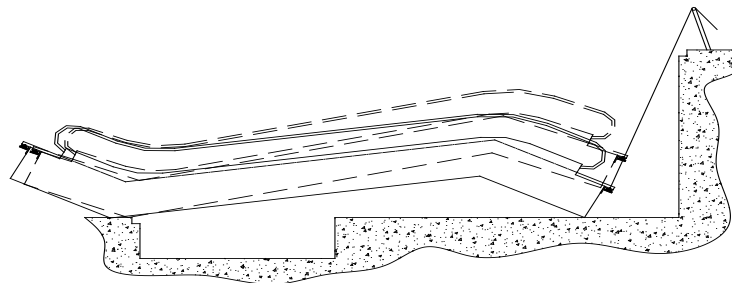

Figure 10 Hoisting of the upper part
3.8.2 Before hoisting the whole escalator onto the supporting beams, first lift its upper part and put a safety rope around the lower part, which will be slowly loosened during the slow hoisting of the upper part. Thus, while the upper part is slowly hoisted, the lower part moves forward slowly. Refer to Figures 10 and 11.